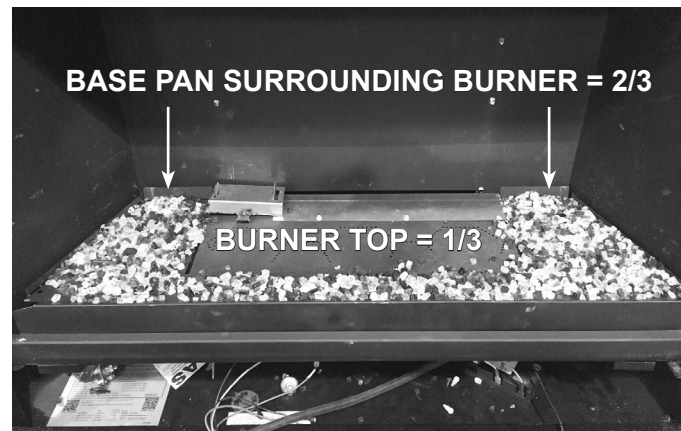
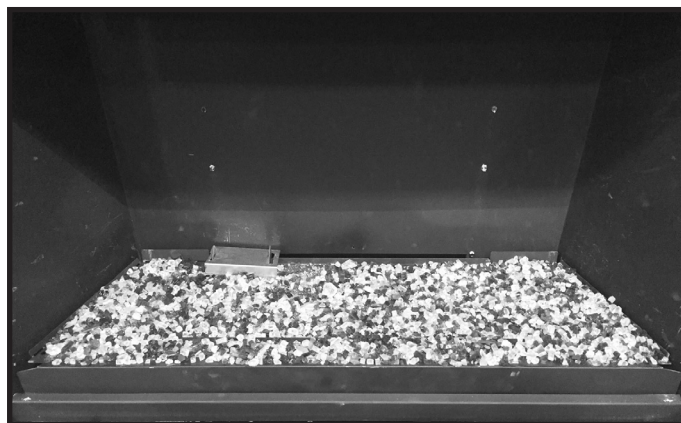

Figure 7. Glass Media 2/3 Installed on Base Pan
Figure 8. Glass Media Installed
11. The Quartz models are designed to use two 2-1/4 pound bags of glass media. Place about 2/3 of the media around the perimeter of the burner as shown in Figure 7. Install the remaining 1/3 of the glass media over the burner surface as shown in Figure 8. The media should be spread evenly over the burner to help ensure optimal flame appearance. Do not remove the glass media jig.